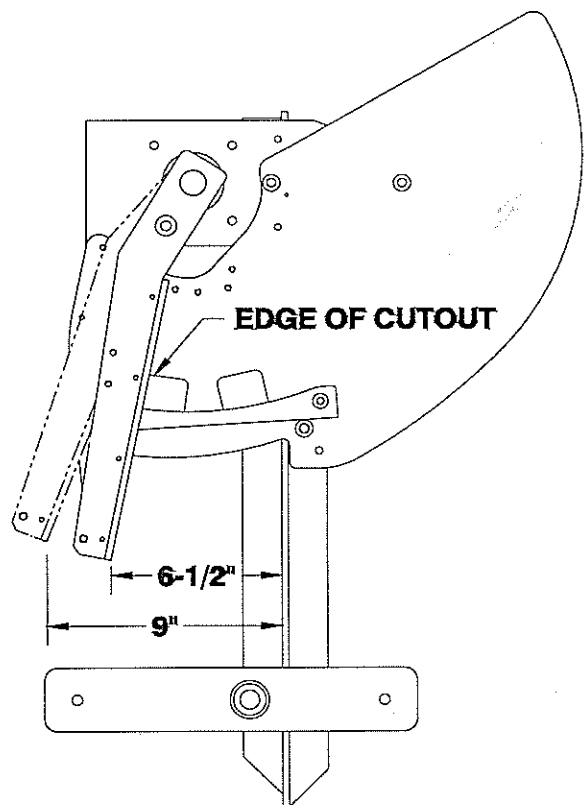

FIGURE 10
2. Adjust arm so that it stops within the range of 6-1/2" to 9" from the tip of the arm to the main body. The edge of the cutout in the drop plate is approximately the 6-1/2" point. (see figure 10)